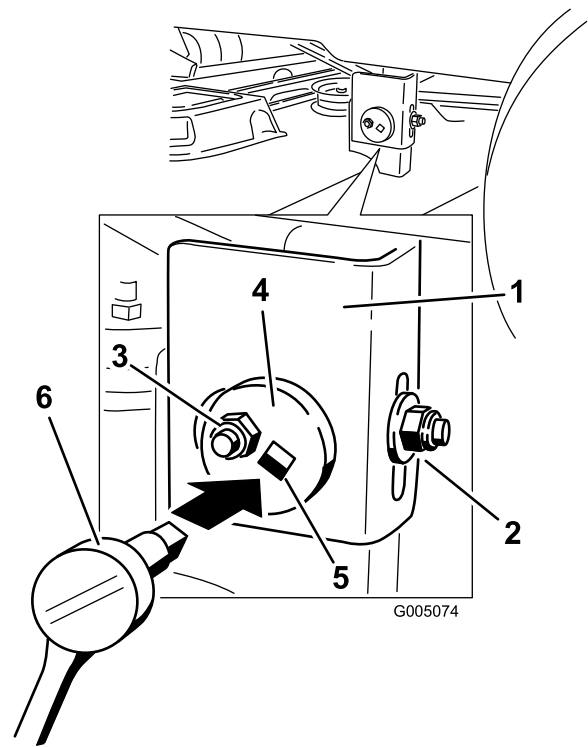

Figure 56
6. Move to the left side of the machine. Loosen, but do not remove, the rear locking nut on the hanger bracket (Figure 56).
7. Loosen the side locking nut on the hanger bracket just enough to allow the eccentric plate to be adjusted (Figure 56). Use a 3/8 inch drive extension on a socket wrench to manipulate the eccentric plate. Use the wrench to reposition the height of the mower deck and adjust it so that the measurements taken in step 5 are within 3/16 inch (5 mm).
8. Stop the deck at the adjusted position and tighten the side locking nut on the hanger bracket to hold the new position (Figure 56). Tighten the rear locking nut on the hanger bracket.